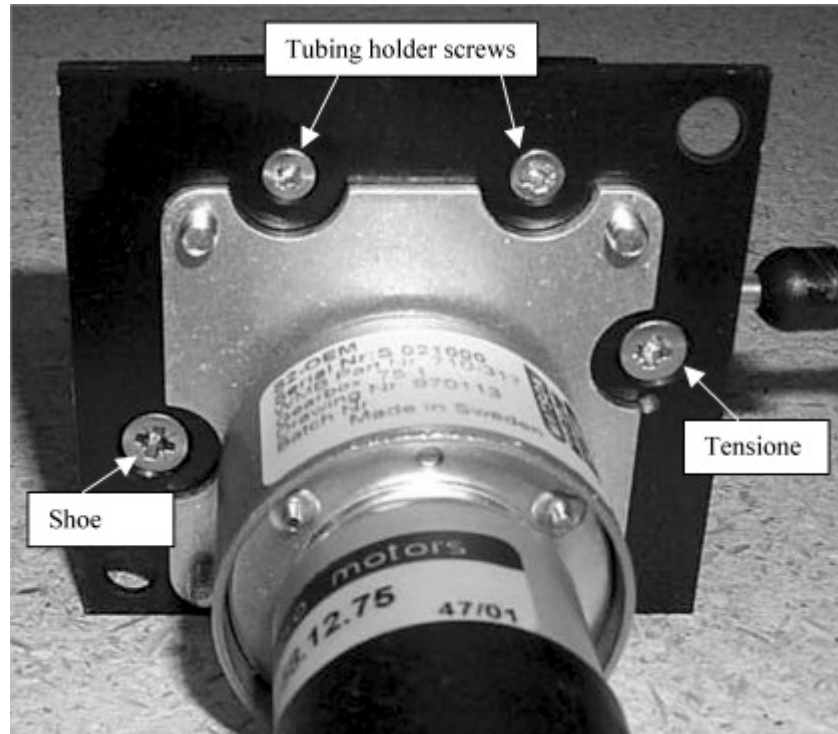

Figure 1-22 Removing shoe, tensioner, and tubing holder.
22. Remove tubing holder, shoe, and tensioner by screws shown in figure 1-22. Keeping screws with parts for installation in chassis later.